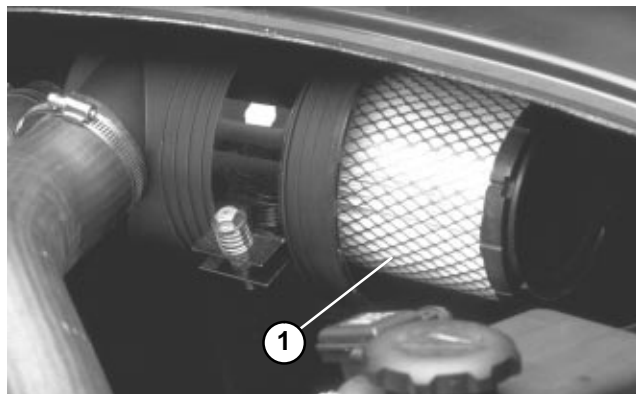

Figure 13
2. Gently slide filter (Fig. 13) out of air cleaner body to reduce the amount of dust dislodged. Avoid knocking filter against air cleaner body.